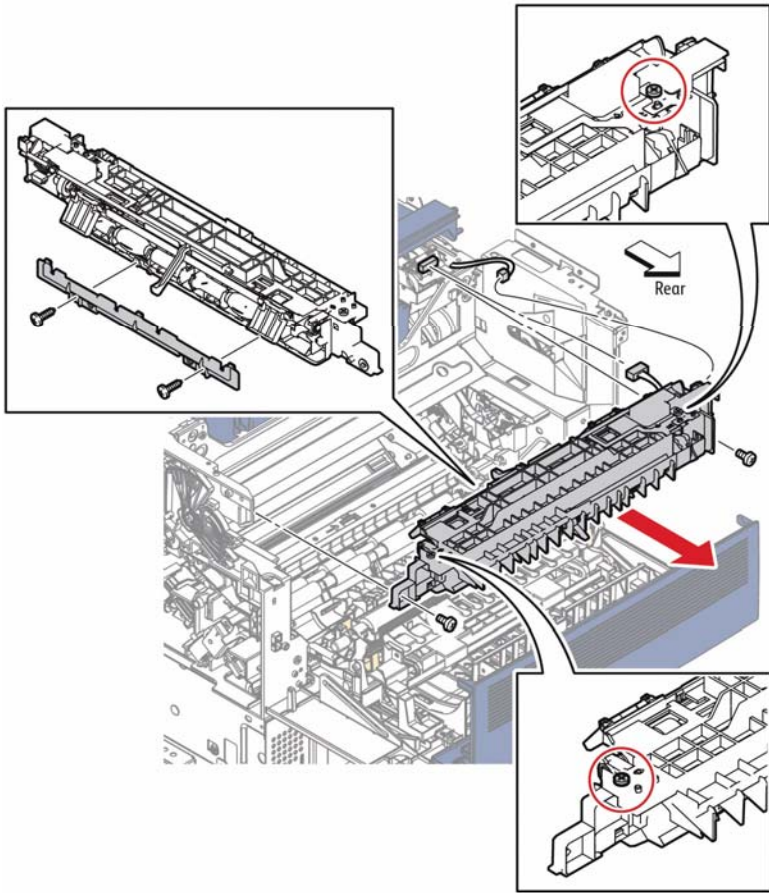

Figure 1 Remove the Exit Assembly
4. Refer to Figure 1 to locate and remove the two screws (silver, 6 mm) that attach the Exit Assembly to the printer and remove the Exit Assembly. Do not remove the two screws circled in the detail boxes.